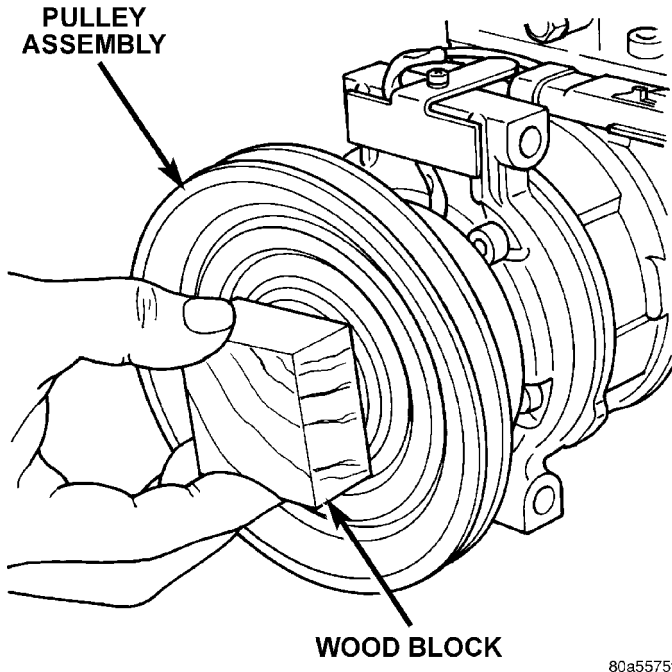

Fig. 27 Installing Pulley Assembly
(3) Install pulley assembly to compressor. If necessary, tap gently with a block of wood on the friction surface (Fig. 27).
(4) Install pulley assembly retaining snap ring (bevel side outward) with Snap Ring Pliers. Press the